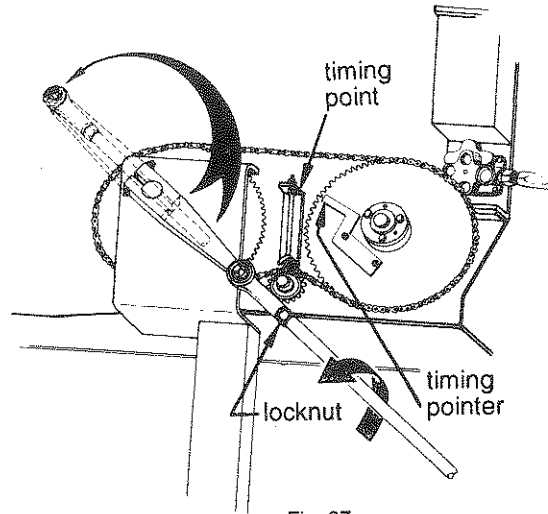

Fig. 37
5. Use the manual control to position needle yoke at bottom dead center (home position), see Fig. 37.